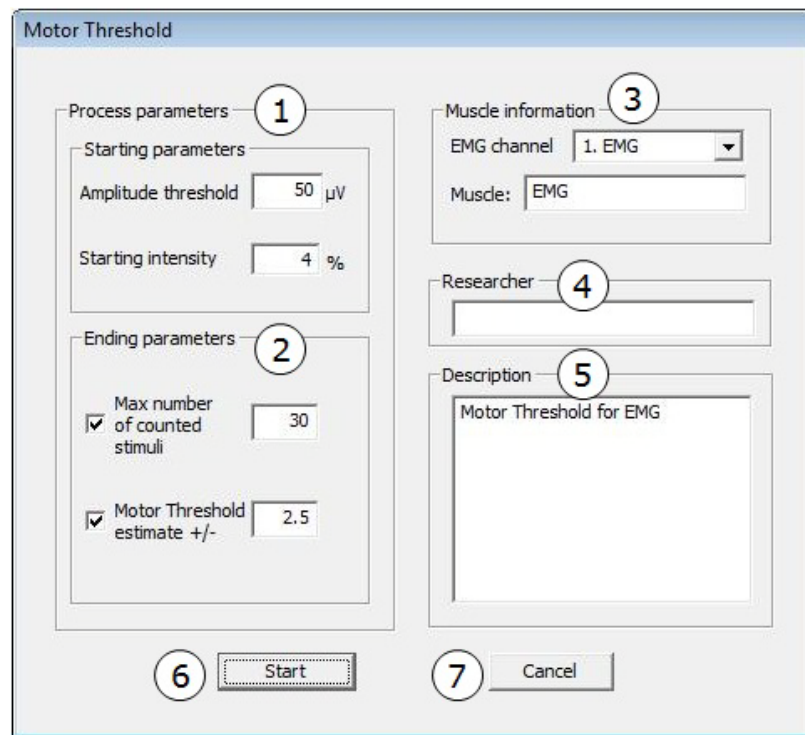

Fig. 97. Motor Threshold starting -dialog
3. In the appearing **Motor Threshold** starting -dialog (Figure 97), enter the process parameters (described in Table 28).